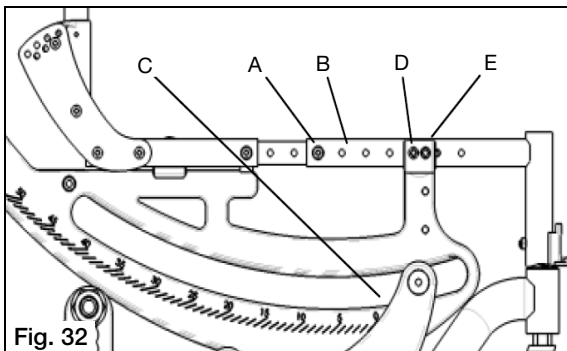

Fig. 32
- Using a 4mm Allen wrench and a 10mm wrench, remove button head screw (Fig. 32:A) with nut and washer from front seat frame (Fig. 32:B) on each side of chair.
- Observe the tilt angle by viewing the angular scale on the side of the rotary frame. The angle is indicated by the rear edge of the bearing plate (Fig. 32:C). Resting angle for optimum performance is 17-23°. If frame rests outside of this range, remove the seat frame position locking screws (Fig. 32:D) using a 5mm Allen wrench.
- Once optimum position is achieved, reinstall and tighten positioning screws in holes closest to optimum position. Screws may be placed in front or rear hole of seat frame saddle (Fig. 32:E).